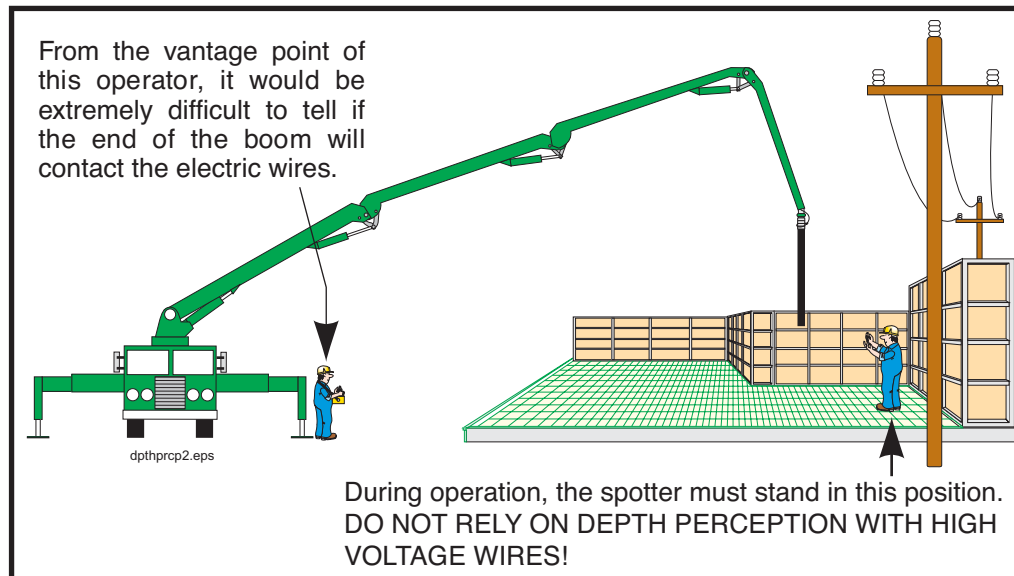

Figure 45
8.11 **⚠ DANGER** Do not rely on depth perception when working near high voltage lines. **You must use a spotter!** (See Figure 45.) See the definition of “spotter” in the glossary found in the Appendix of this manual.